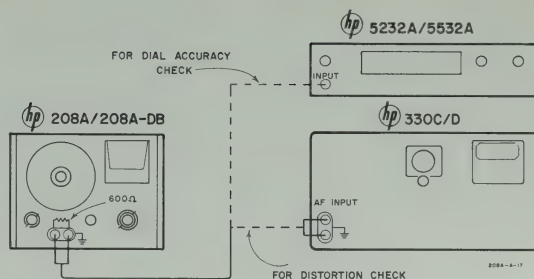

Figure 5-6. Test Setup for Dial Accuracy or Distortion Check
a. Connect frequency counter and 600 ohm load to oscillator output as shown in Figure 5-6.
- Connect distortion analyzer and 600 ohm load to oscillator output as shown in Figure 5-6.